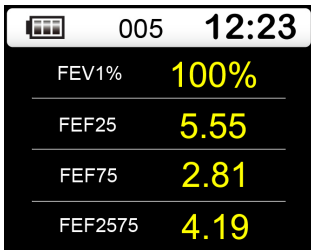

Figure 5 Other parameter interface
- c. **Other parameter interface:** display four parameters except the main parameter, as shown in Fig.5.
- d. Under [Main parameter] interface, press “Up” or “Down” key will enter [Other parameter] [Flow rate-volume chart] [Volume-time chart] in turn, as shown in Fig.5, 6, 7. The four interfaces above are [Main interface].